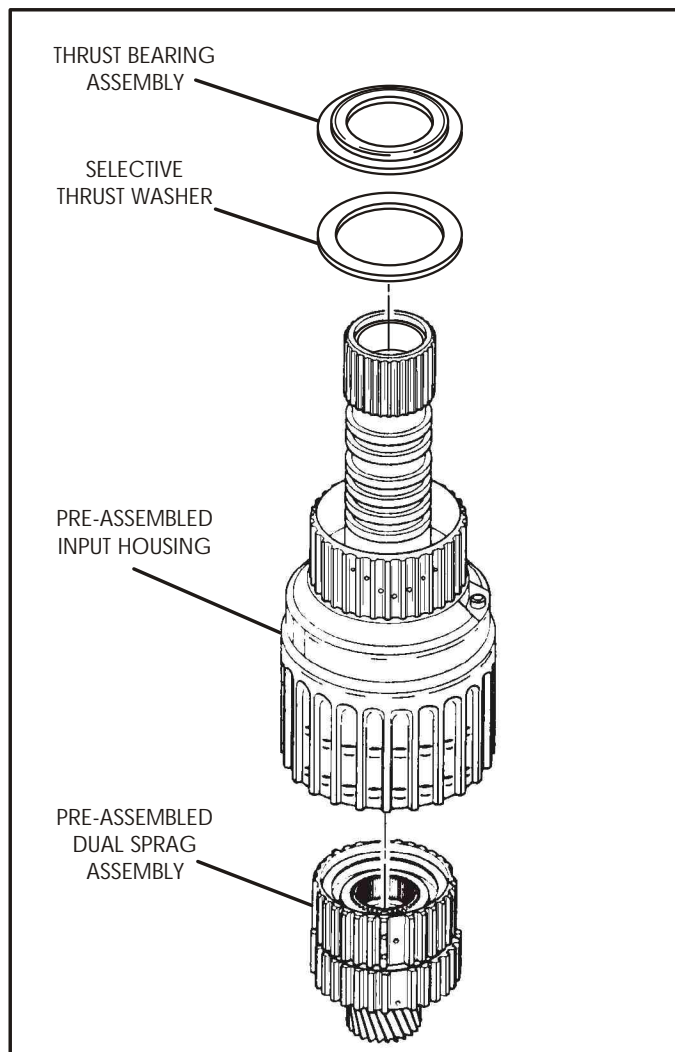

Figure 163
48. Install the selective thrust washer into the input housing, as shown in Figure 163.
49. Install the thrust bearing on top of the selective washer, in the direction shown in Figure 163.